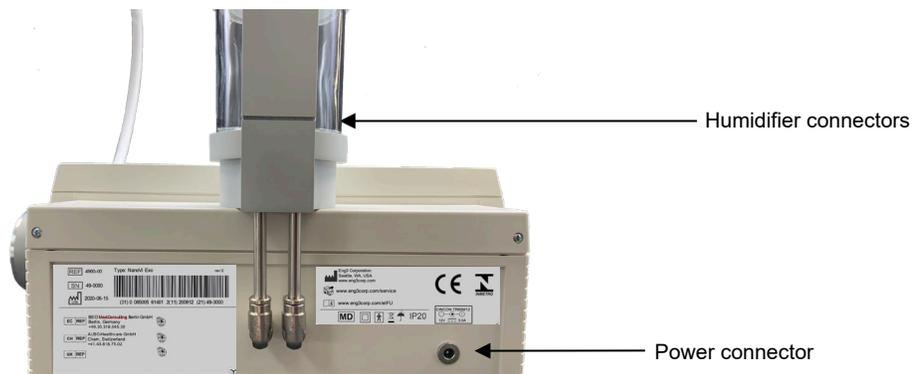

Fig. 1.2: Back view of the NanoVi® device
7. Connect the power cord to the power supply. Plug the power supply into the NanoVi® device. Note Figure 1.2 to locate the power connector on the back of the device. Plug the power cord into an electrical outlet.